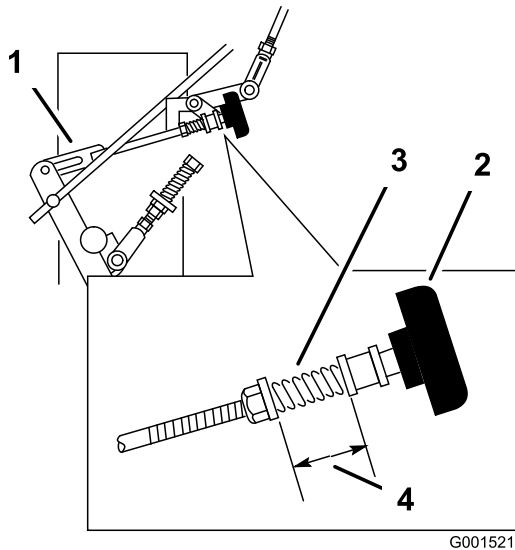

Figure 41
- Adjust the right side linkage by turning the quick track knob counterclockwise until the tire begins to rotate forward (Figure 41).
- Turn the knob clockwise 1/4 of a turn at a time. Then move the speed-control forward and back to neutral. Repeat this until the right wheel stops rotating forward (Figure 41).
- The spring that keeps tension on the knob should normally not need adjustment. However if an adjustment is needed, adjust the length of the spring to 26 mm (1 inch) between the washers (Figure 41).
- Adjust the spring length by turning the nut at the front of spring (Figure 41).